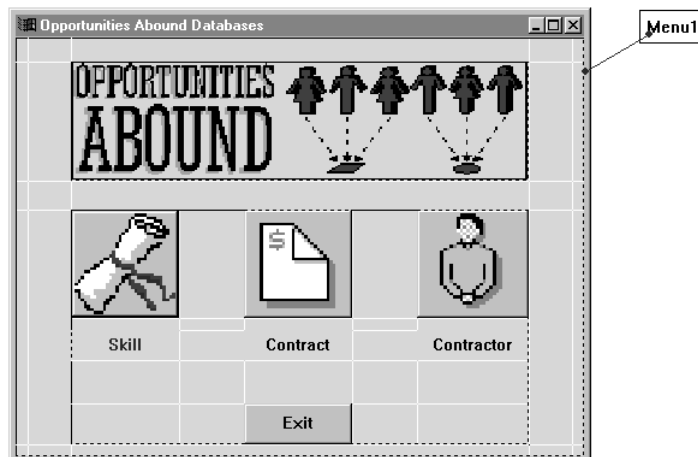

Figure 111. OAMain with Menu Part
3. Connect the *menu* attribute of the IFrameWindow*-based part to the *this* attribute of the menu part. Your part should look similar to what is shown in Figure 111.